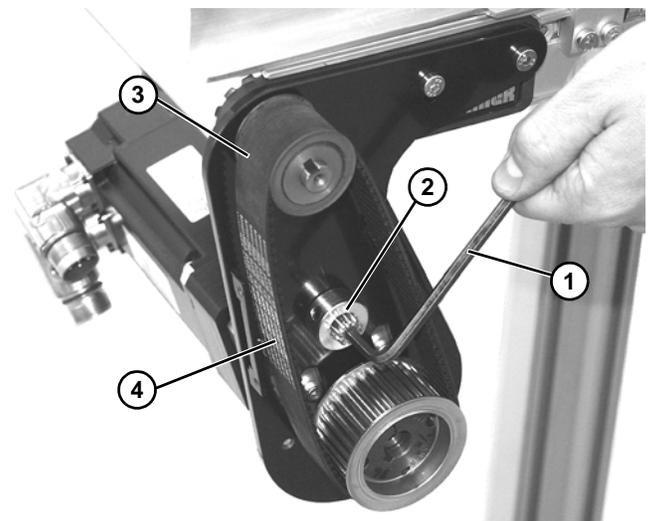

Figure 51
3. Use a hex wrench (**Figure 51, item 1**) to turn tensioner adjustment fitting (**Figure 51, item 2**) to tighten belt (**Figure 51, item 3**).
4. Depending on conveyor belt travel (direction A or B), locate timing belt tensioner (**Figure 51, item 2**) as shown. Tension timing belt to obtain 1/8" (3 mm) deflection for 6 lb (3 Kg) of force at timing belt midpoint (**Figure 51, item 4**). Tighten tensioner screw to 110 in-lb (12 Nm).
5. Depending on conveyor belt travel (direction A or B), locate timing belt tensioner (**Figure 51, item 2**) as shown. Tension timing belt to obtain 1/8" (3 mm) deflection for 6 lb (3 Kg) of force at timing belt midpoint (**Figure 51, item 4**). Tighten tensioner screw to 110 in-lb (12 Nm).